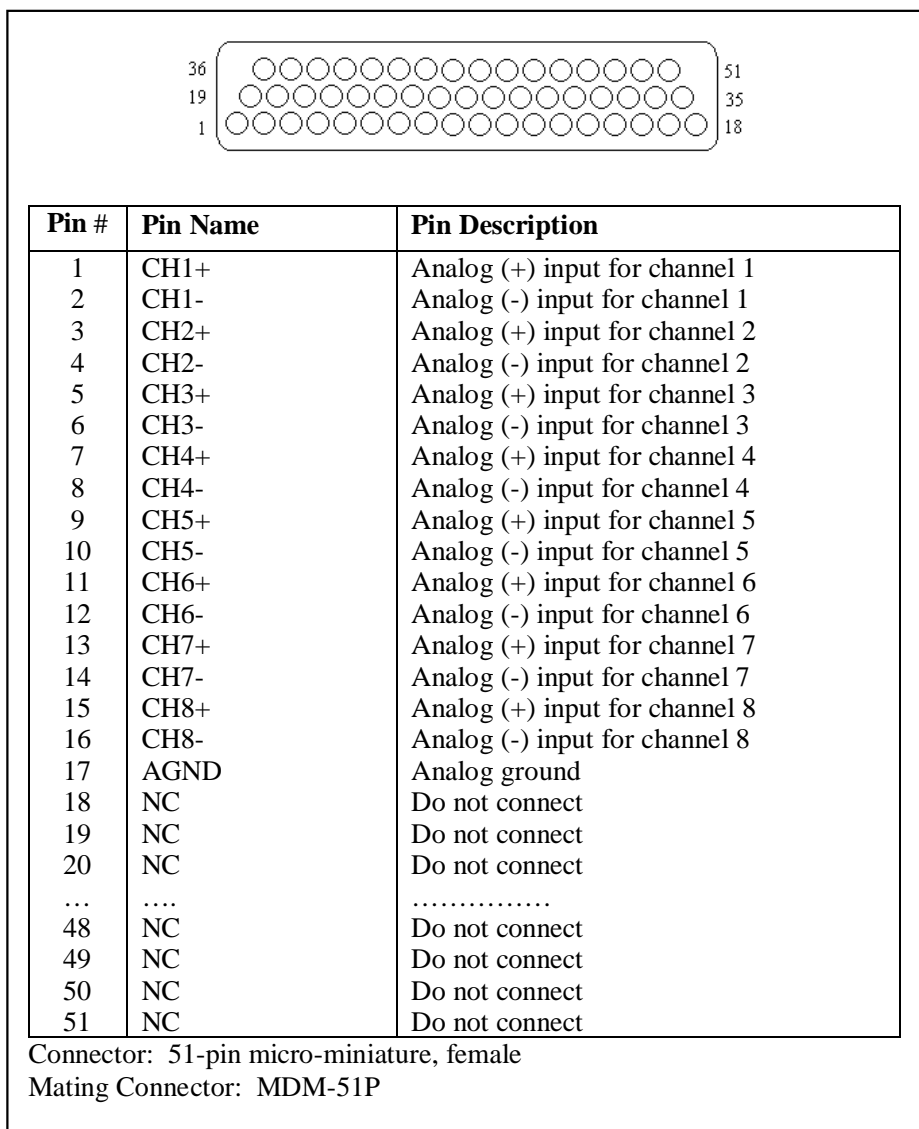
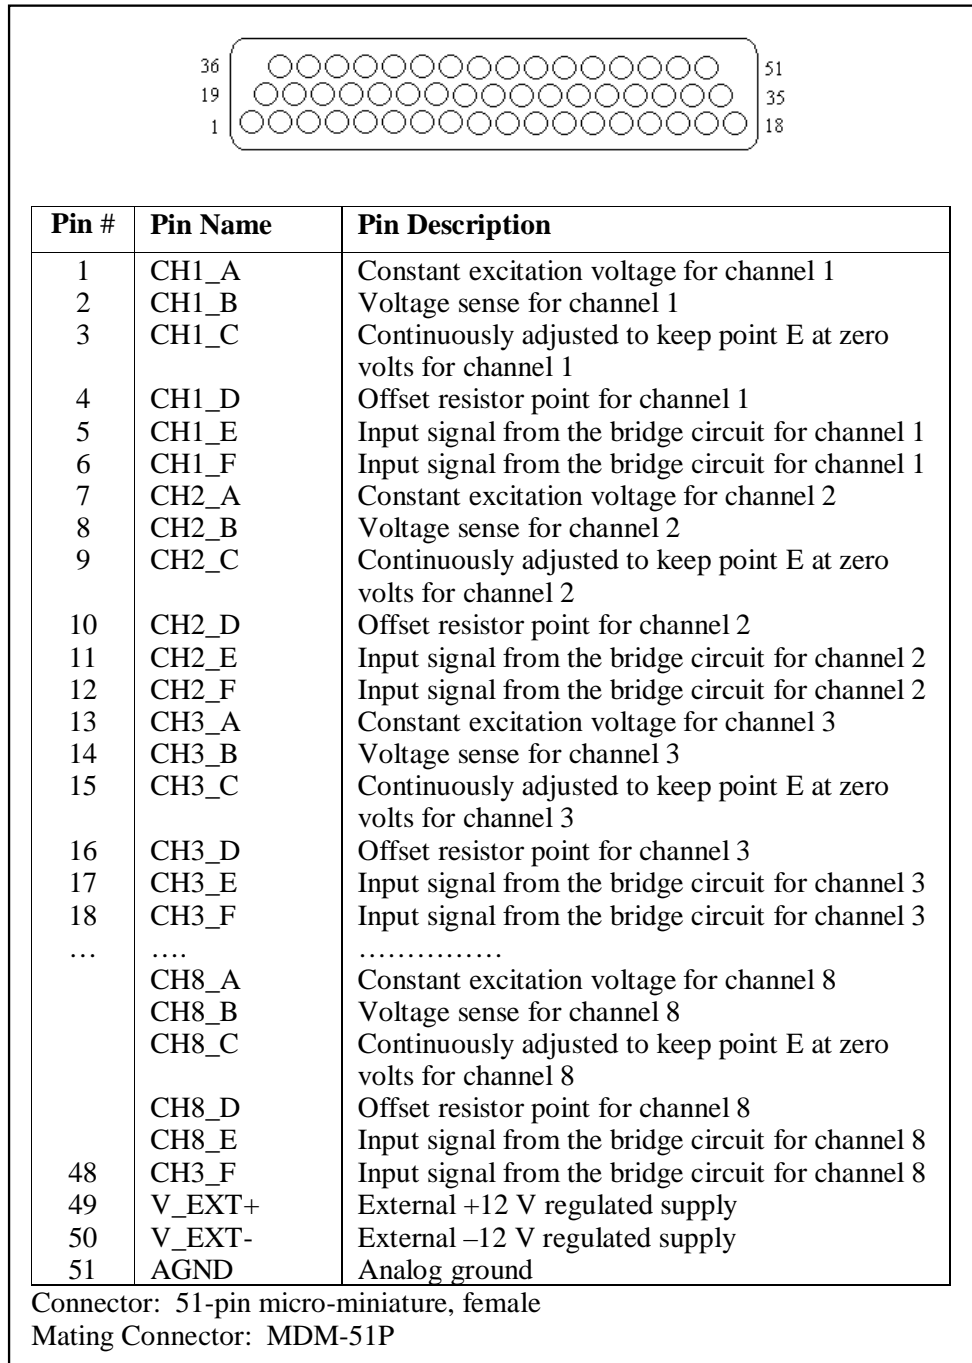
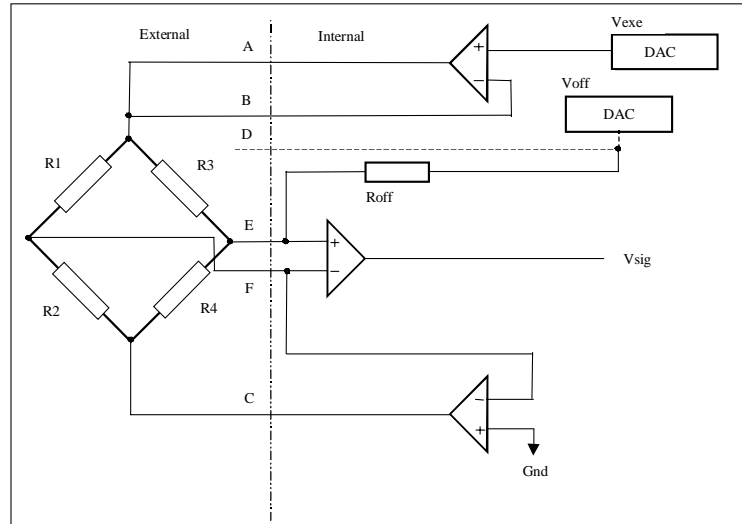
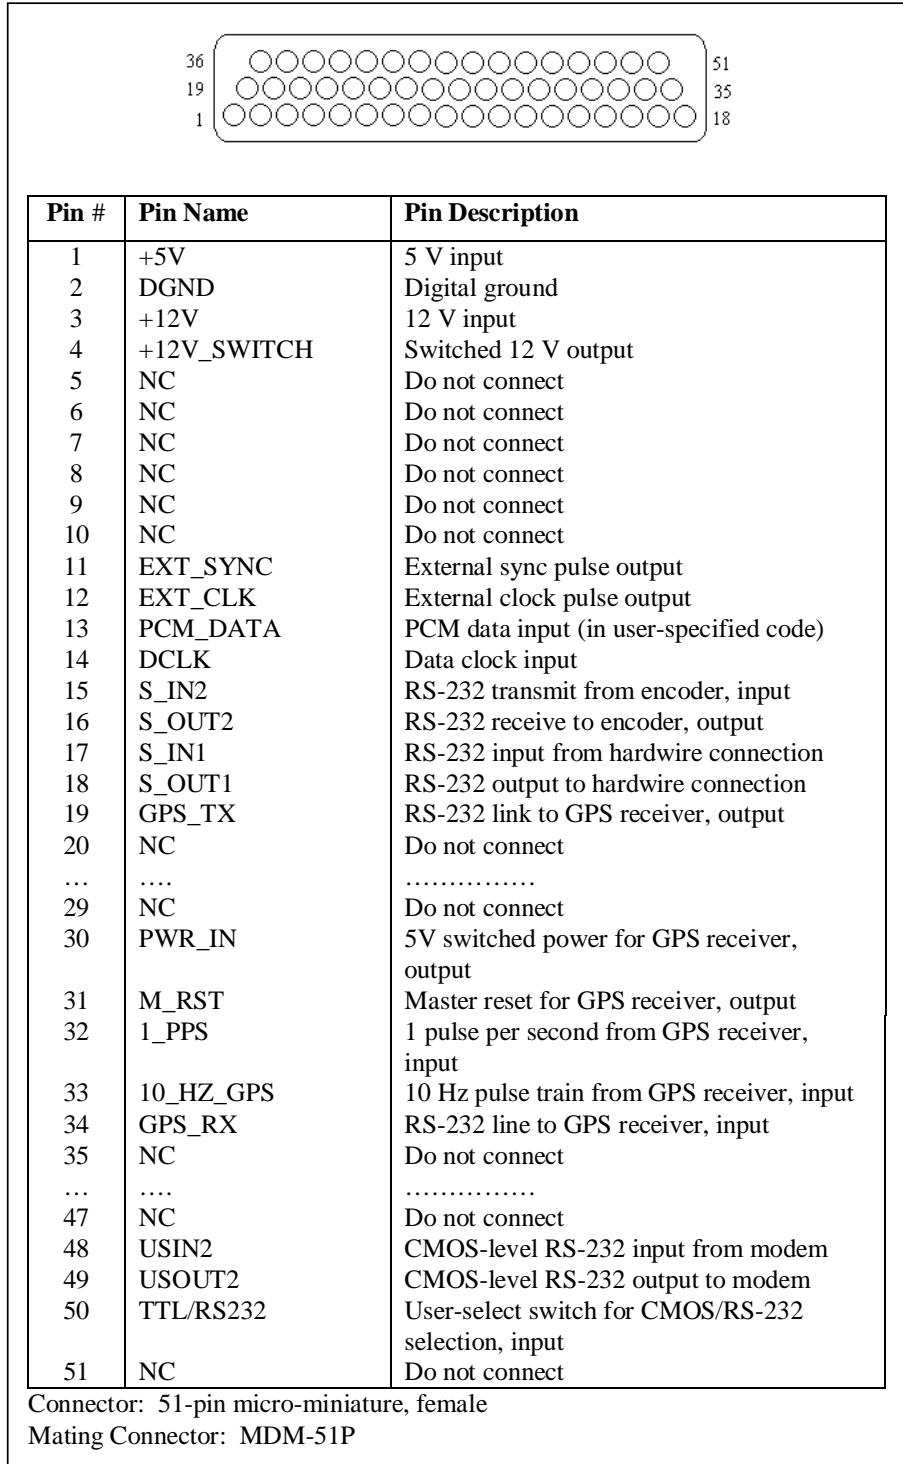

Figure 2-6. KAM-500 Analog Module Pin Assignment.
Figure 2-7. KAM-500 Strain-Gauge Module Pin Assignments.
Figure 2-8. Full-bridge Strain Gauge Schematic.
Figure 2-12. PATSyM Pin Assignment.
Figure 2-6 shows the pin assignment on the 51-pin connector of the high-level analog module. The module senses the differential voltage present between two-pin pairs. This voltage must be limited to ± 10 V to be properly sensed by the card. Voltages beyond those limits will be sensed as -10 V or $+10$ V. The analog ground (AGND) pin should be wired to the AGND (pin 2) on the power connector.
Figure 2-7 describes the pin assignment for the 51-pin connector of the strain-gauge module. The first 48 pins are divided into eight groups of six, each group dedicated to one channel of strain-gauge instrumentation. Figure 2-8 is a schematic diagram of a typical full-bridge strain gauge and illustrates the connection points for the six pins allocated
Figure 2-12 illustrates the pin assignment on the 51-pin connector of the PATSyM. Inputs on pins 1-3 must supply 12 VDC and 5 VDC power to the module. Pin 4 outputs 12 VDC that can be switched off by a user-controlled (usually closed) relay on the module. Pins 11 and 12 output the external clock pulse-trains that are input to encoder pins 4 and 5, respectively, as shown in Figure 2-6. Pins 13 and 14, shown in Figure 2-7, receive the TTL-level PCM data from encoder pins 11 and 12. Pins 15 and 16 are connected to the encoder RS-232 serial communications pins 13 and 14, respectively. Pins 19 and 30–34 are connected to the GPS receiver/antenna unit, wired to the pins with the same labels on the GPS connector.
A DAS power supply must not only supply power for the DAS and the instrumentation modules contained within it, but it must also supply excitation to the strain gauges attached to those modules, power the PATSyM module, and perhaps supply excitation to the analog instrumentation being monitored, depending on the particular application. If telemetry is used, the power supply must also power two modems. The strain-gauge and analog excitation can be supplied through the KAM-500 (within the limits listed on the specification sheet), or directly from the power supply. As noted above, the strain-gauge instrumentation module has two pins for bridge excitation input. The voltage at these inputs must be at least 20% above the highest user-specified level for bridge excitation. This voltage is converted down to the user-specified bridge-excitation voltage level and then output to the actual bridge through the 51-pin module connector (see the connector pin assignment in Figure 2-7). Information on estimating the power supply requirements for the DAS may be found in Appendix D. Pick a power supply that can supply more current than the amount needed, to allow for the possible addition of more instrumentation. Power supply size and weight are of much more importance for an RBU than for a GBU.
- b) Analog sensors (0 ± 10 V output) will require the use of a high-level analog input module (see Table 2-2 and Figure 2-6), with two lines connecting each gauge to the module and additional lines to provide sensor excitation, as needed. A high-level analog module will sample up to eight differential analog inputs.
- c) Strain-gauge sensors will require the use of a strain-gauge input module (see Table 2-2 and Figure 2-7). Strain-gauges are normally connected to the instrumentation module with four wires per gauge (+ and – excitation and + and – signal). If the excitation wires between the module and the gauge are long enough that the voltage drop that will occur is of concern, run a 5th line (the B lead) between the two to permit sensing (and control) of the excitation voltage at the gauge itself. A strain-gauge module will handle as many as eight gauges. The normal strain-gauge modules will work with 120, 350, or 1000 Ω full-bridge configurations. Strain-gauge modules can also be *factory* configured to work with half-bridge or quarter-bridge strain gauge arrangements.
5. The RBU and each GBU will require a PATSyM to synchronize the acquisition timing (see Table 2-5 and Figure 2-12). It is possible to use a single PATSyM to synchronize two GBUs. However, the GBUs should be quite close to each other or the PATSyM clock pulse trains may degrade to the point where they will not properly trigger the DAS. It may be possible to drive three or more GBUs with a single PATSyM, but this has not yet been demonstrated.